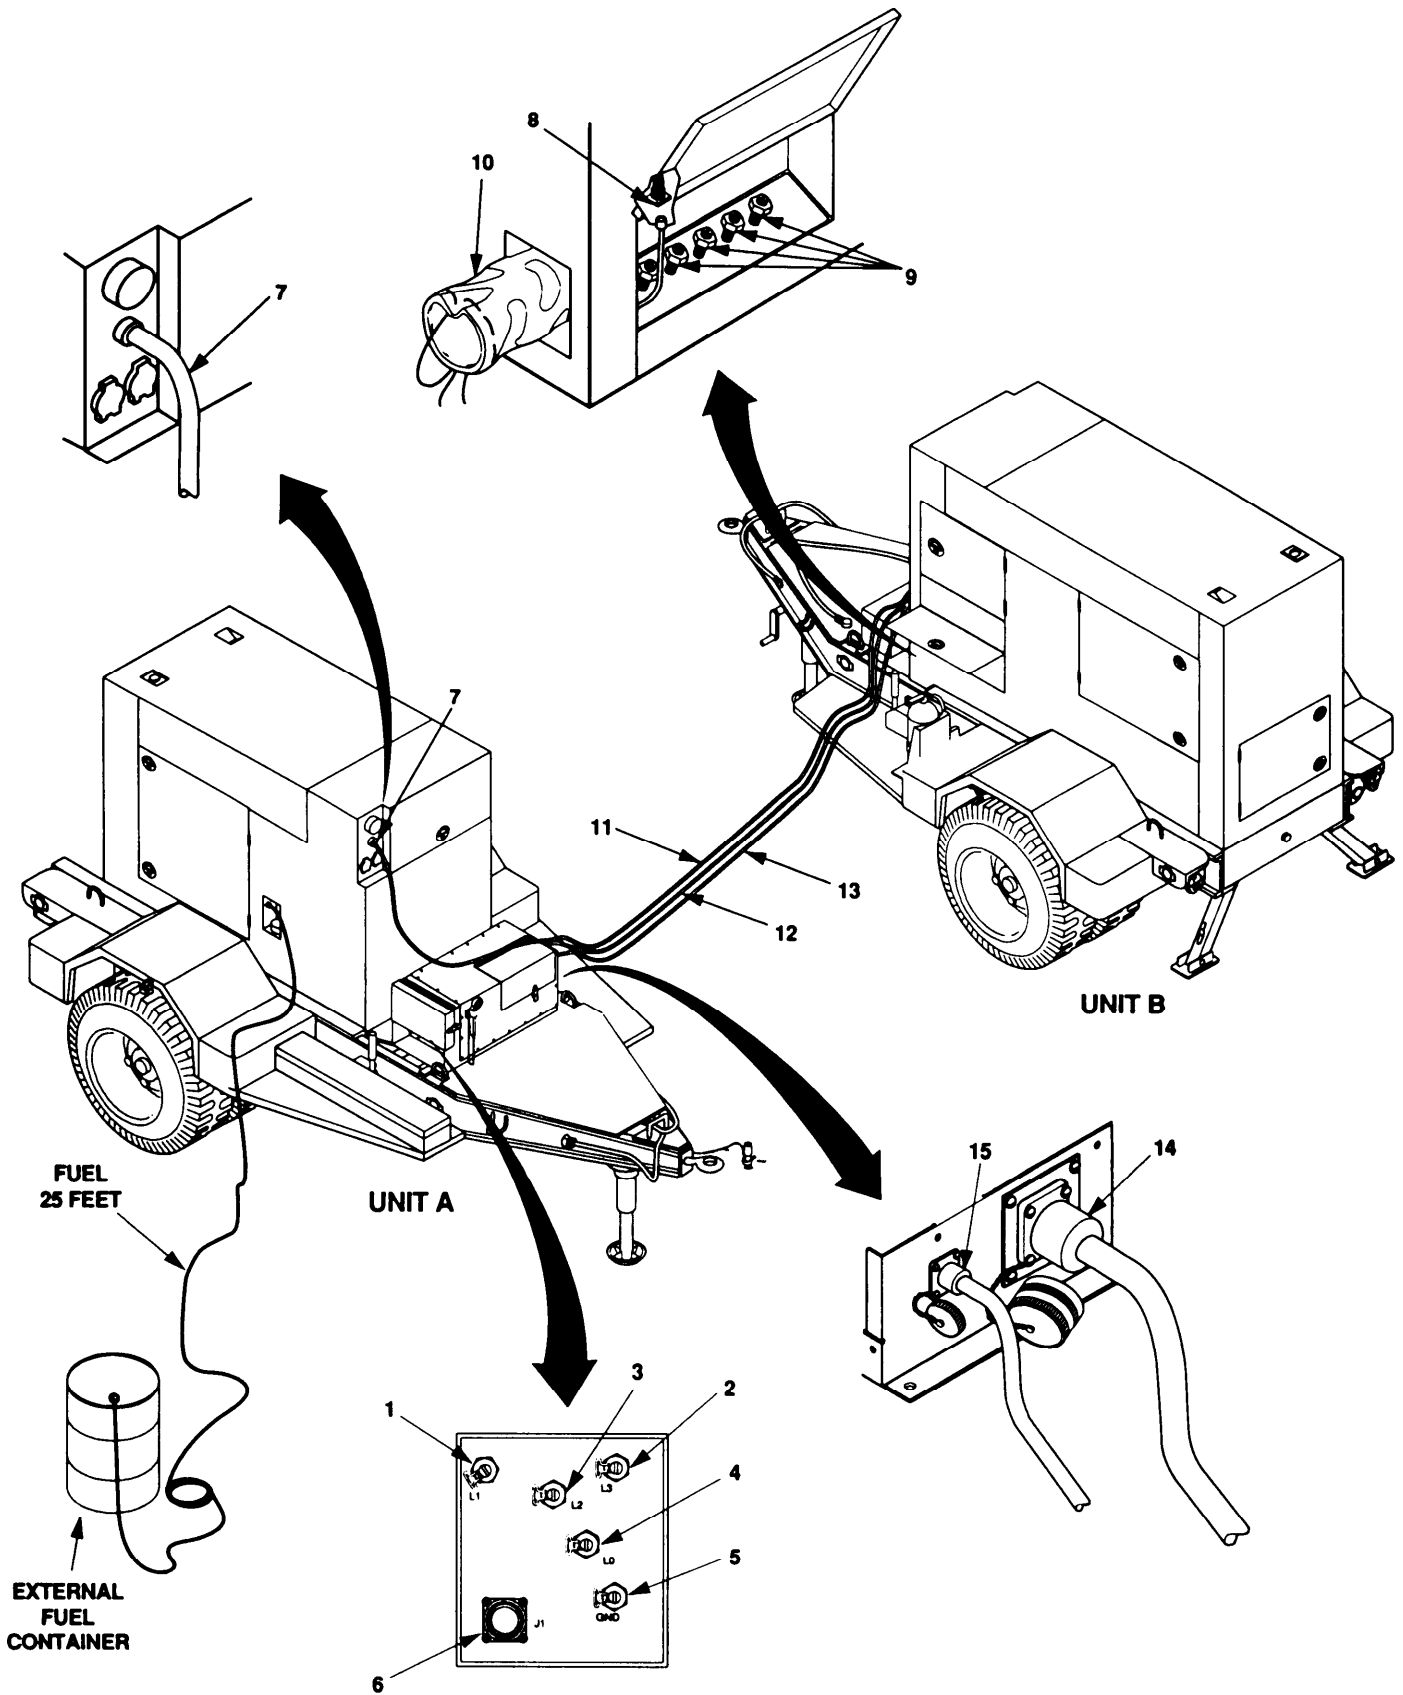

Figure 2-15. Disconnection of Power Plant.
**2-7-2.2 Power Plant.** Load may be connected to the switch box (figure 2-15) by either of two methods. One method is to connect the load cable to the J1 connector (6). The other method is to connect load cables to the load terminals (1, 2, 3, 4, and 5). Disconnect the load cable using the appropriate method. Disconnect unit A from unit B as follows:
- a. Disconnect power cable (12) as follows:
- (1) Disconnect leads from load terminals (9) and remove from power cable sock (10).
- (2) Disconnect plug end of power cable (12) from connector J2 (14).